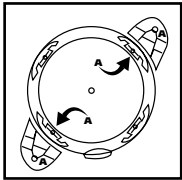

FIGURE 3
3. With tank drain facing you, take caster feet marked with letter **A** and place in slots on left front and right rear of tank also marked with the letter **A**. **FIGURE 3**.